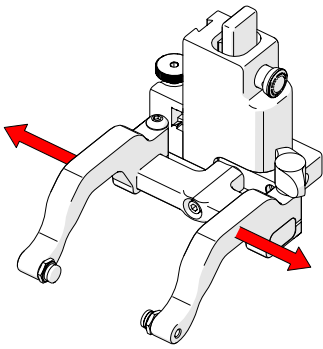

Fig. 62 - Remove probe holder arms
1. Loosen the arm clamp screw and the probe holder adjustment knob allowing the removal of the probe holder arms (Fig. 62).